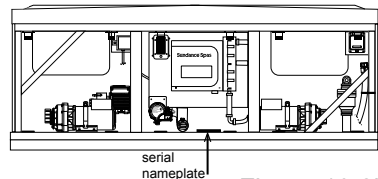
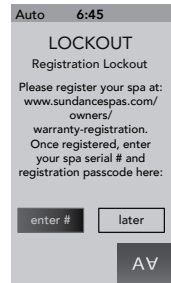

Figure 10.2b
Figure 10.2a
Registering your spa is important in order to validate your warranty. In order to register you will need to have the spa serial number, Figure 10.2b, then you will need to register online in order to receive a passcode. The passcode must be entered into the control panel in order to unlock the Registration Lockout screen, Figure 10.2a.
1. From the registration screen, Figure 10.2a, tap **enter #** to enter the spa serial number.